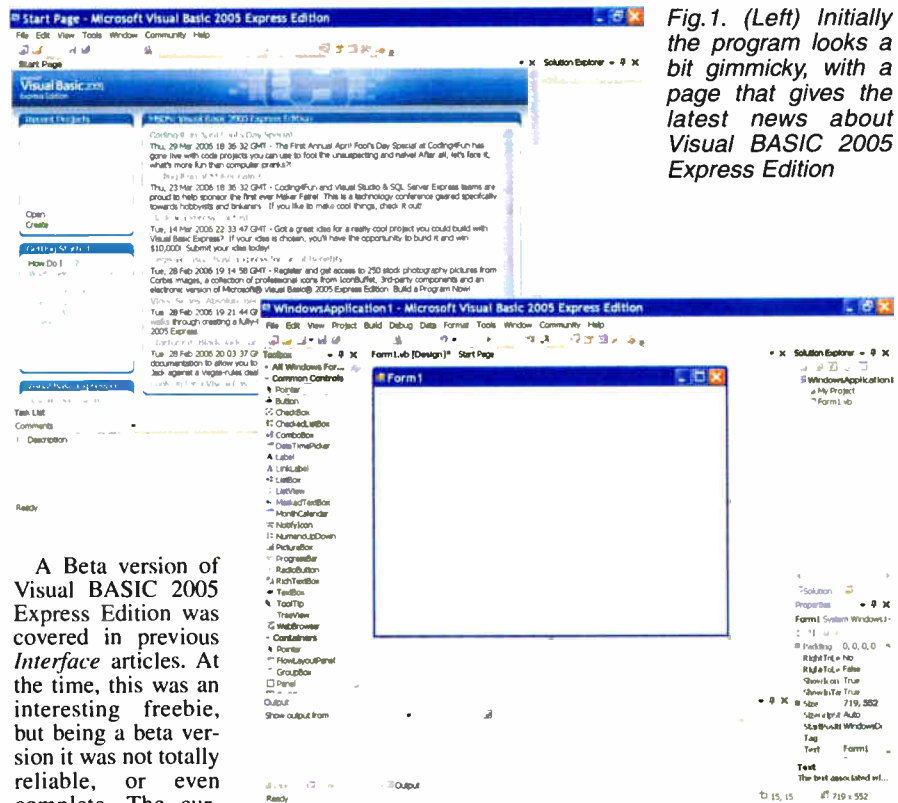

Fig.1. (Left) Initially the program looks a bit gimmicky, with a page that gives the latest news about Visual BASIC 2005 Express Edition
installed and run (Fig.1). Assuming there is an active Internet connection, the main panel provides the latest news about Visual BASIC Express Edition. This disappears when you start using the program in earnest (Fig.2.).
Fig.1 shows the details of our design – it's based entirely around the TL07x series op amps. Like most effects pedals, the circuit is designed to connect directly in-line with the guitar's output.
**Fig.1:** the circuit uses three low-cost op amps (IC1-IC3) and operates from a 9V battery. Schottky diodes D1 & D2 provide the soft clipping function, while IC1b provides hard clipping, depending on the setting of VR1.